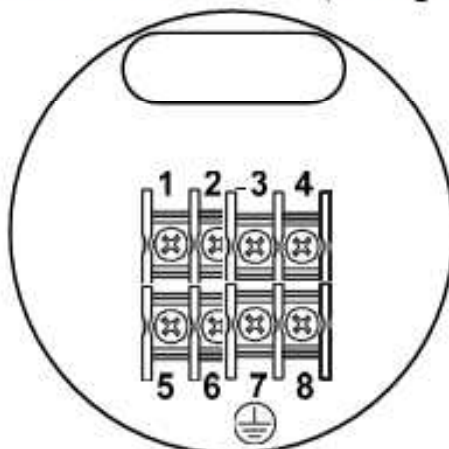

Figure 2. Terminal Configuration LUCB-□N & LUCB-□A
- ◆ Explosion Proof Type: LUCB-□N & LUCB-□A (See Figure 2)